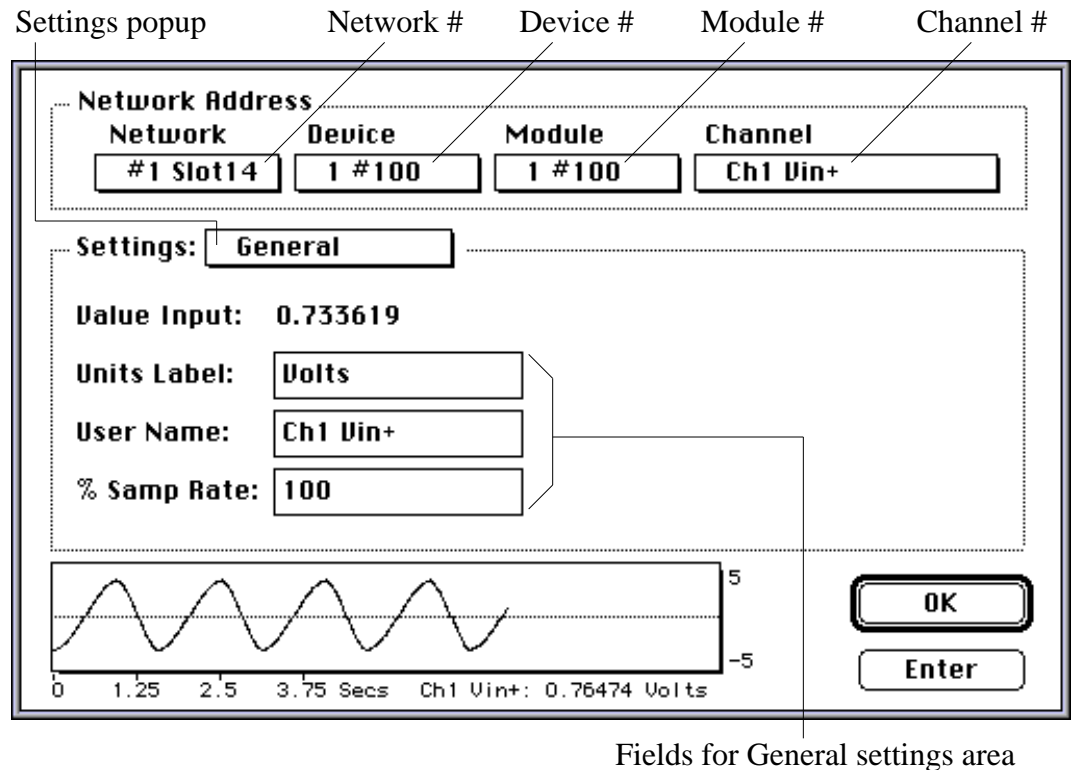

Figure 2.6 The Probe Dialog
- Click on any cell in the Units Label column to open the Probe dialog, as shown in figure 2.6.
For example, in Figure 2.6, we are viewing the General settings for channel Ch1 Vin+, which is physically connected to the 1st Device (a Model 100) attached to the 1st Controller (i.e. Network), which is plugged into computer slot #12. The General settings group contains 4 Fields: Value Input, Units Label, User Name, and % Sample Rate.